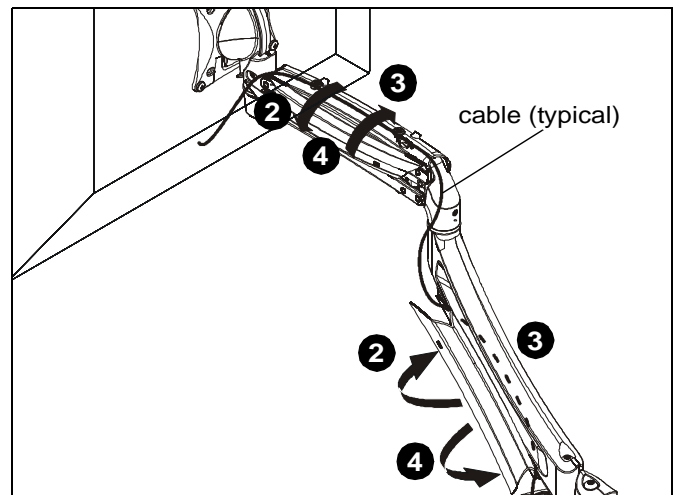

Figure 17
3. Route cables through cable management channels. (See Figure 17)
4. Close cable management covers on monitor arm. (See Figure 17)